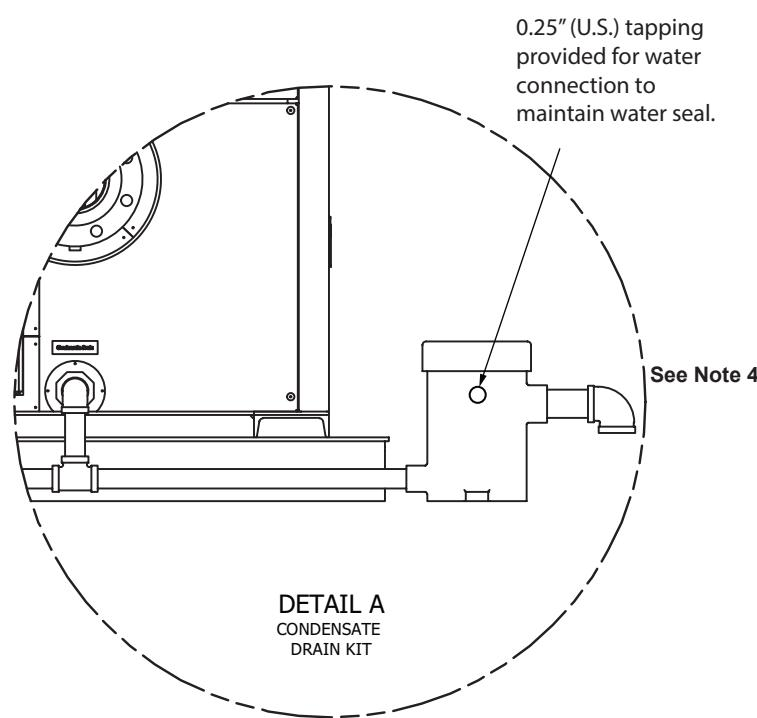

FIGURE 14 - CONDENSATE DRAIN PIPING FOR MULTIPLE ENDURA BOILERS
The multiple boiler condensate drain trap is Fulton Part Number 4-57-000440. The maximum number of units to attach per condensate drain trap is 12mm BTU total. (See Figures 14 and 16).
5. All piping (Figure 14) must be CPVC, galvanized, or stainless steel, and be free of leaks. Copper, carbon steel/iron pipe or PVC are not acceptable.